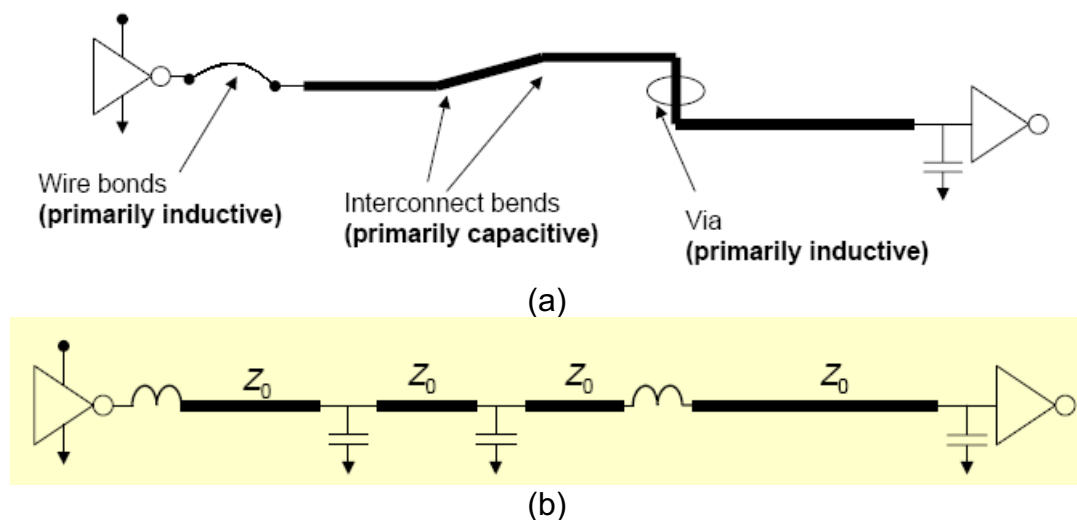

Fig. 4 – (a) Discontinuities in digital circuits. (b) Equivalent circuit.
5. Delays introduced by capacitive and inductive discontinuities in digital circuits. Discontinuities in the form of bends are primarily capacitive whereas vias are essentially inductive (see Fig. 4 below).